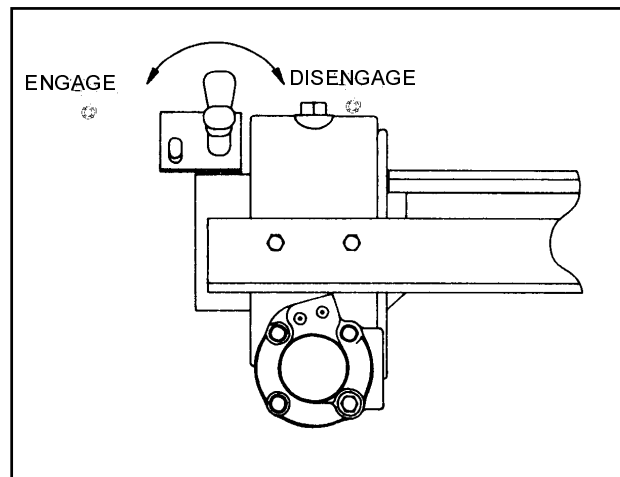

Figure 3-5 20,000# Winch Clutch
b. The **20,000 lb WINCH CLUTCH HANDLE** has two positions. (See Figure 3-5).